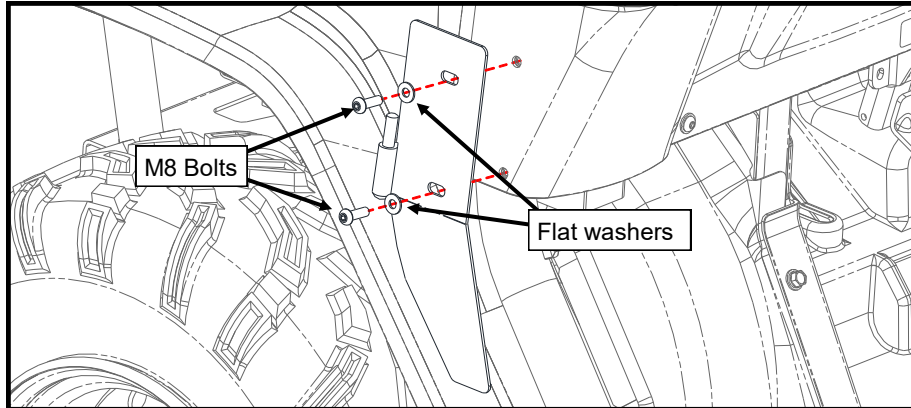

Figure 15.1: Lower Hinge Mount for front doors (Driver's side shown)
- 15.1 Remove the two plugs from each side of the dashboard, just behind the front fenders (see Figure 15.1).